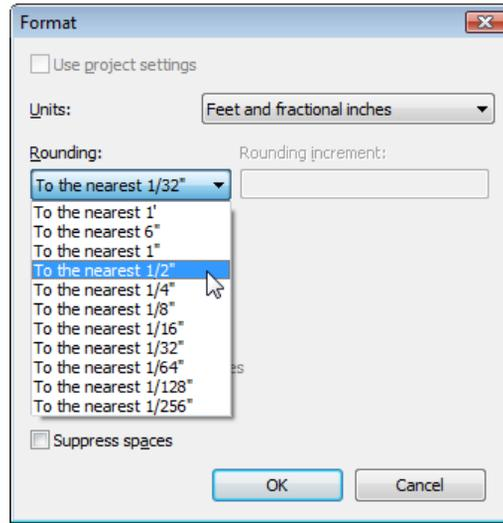

Figure 2-37 Selecting the *To the nearest 1/2"* option in the *Format* dialog box
- Click on the **Rounding** drop-down list in this dialog box and select the required option, as shown in Figure 2-37.